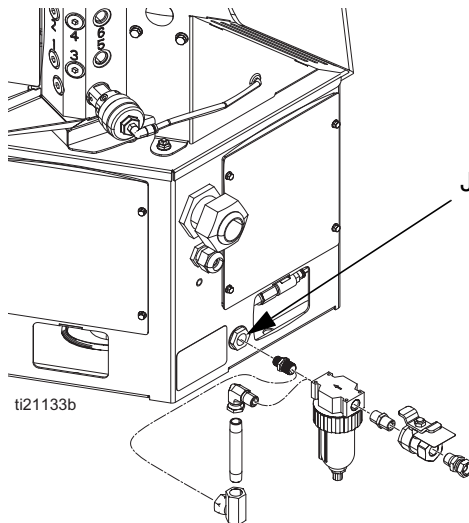

FIG. 12
17. Install the supplied air inlet bleeding ball valve and air filter kit (Graco Part No. 24R707) at the 1/4 NPT female system air inlet (J). See FIG. 12.